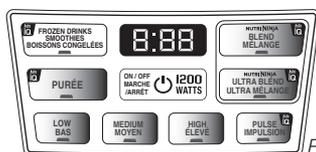

Fig. 1
- 3 Align and lower the pitcher onto the motor base. (Fig. 1) Handle should be aligned slightly to the right of the "LOCK" symbol on the motor base.
**NOTE:** Nutri Ninja™ | Ninja® Blender Duo™ with Auto-iQ™ Technology can sense which jar is on the motor base. The available function lights will illuminate depending on which jar is placed on the motor base. (Fig. 1)